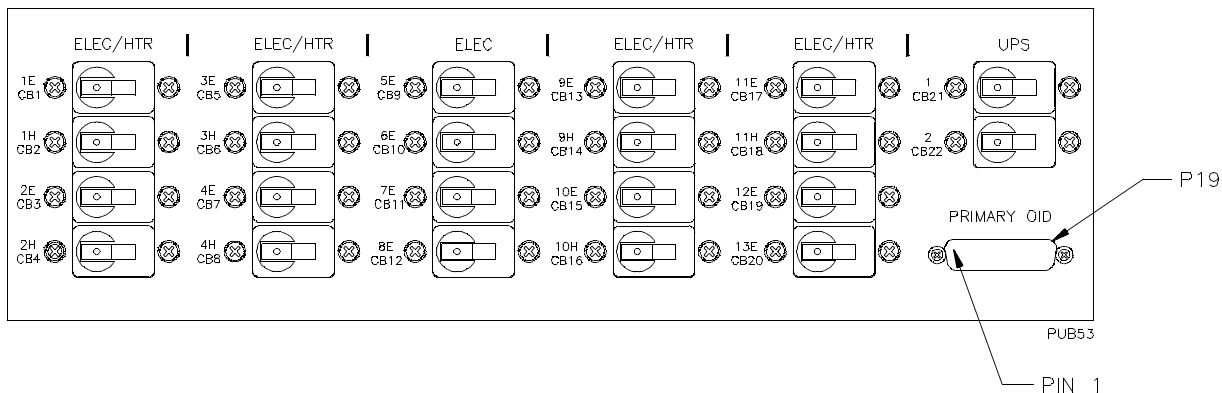

Figure 14.3.1. Circuit Breaker Panel 7A1A1A3, Controls
14.3.2.1 **Circuit Breaker Panel 7A1A1A3, Controls and Indicators.** Circuit breakers and their functions are illustrated on figure 14.3.1 and described in table 14.3.1.